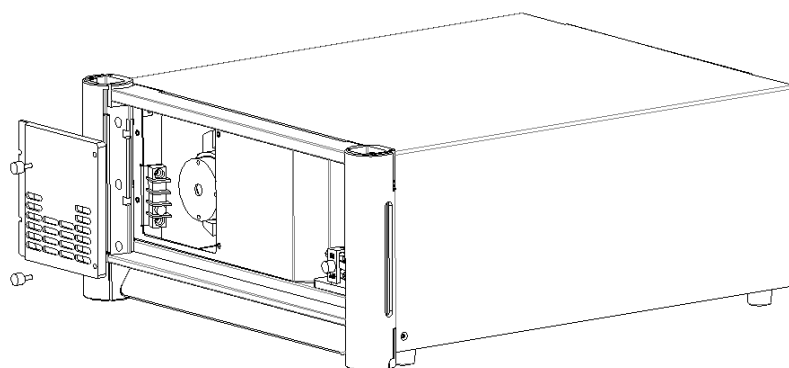

Fig. 5-1 Remove the Front Lamp Cover
- 1) Unscrew two fixing screws of the front panel, and remove the front panel lamp cover, as shown in Figure 5-1.